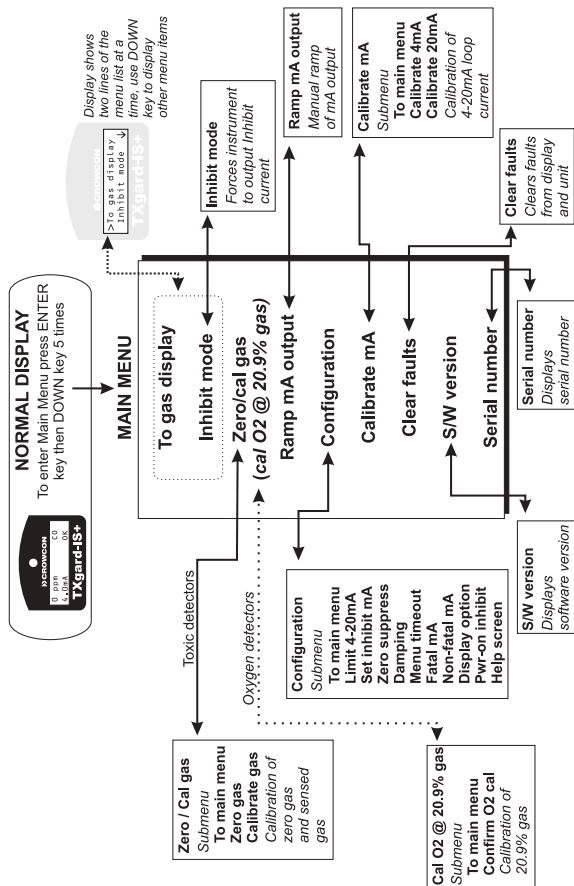

Figure 10: Menu structure for TXgard-IS+ toxic detector.
shown in Figure 10 on page 13, detailed menus can be found in Appendix D.
NOTE: To prevent false alarms during calibration, enable inhibit mode prior to zeroing or applying gas (see Figure 10 on page 13). The detector output will then remain at the preset inhibit level (see Appendix D) for **five minutes** or until inhibit mode is cleared manually. "Inhibit" will appear on the normal operating display when inhibit is active, and the detector will automatically resume gas level output after five minutes.
- 3 You should now be in the main menu. Refer to menu structure, (Figure 10 on page 13)